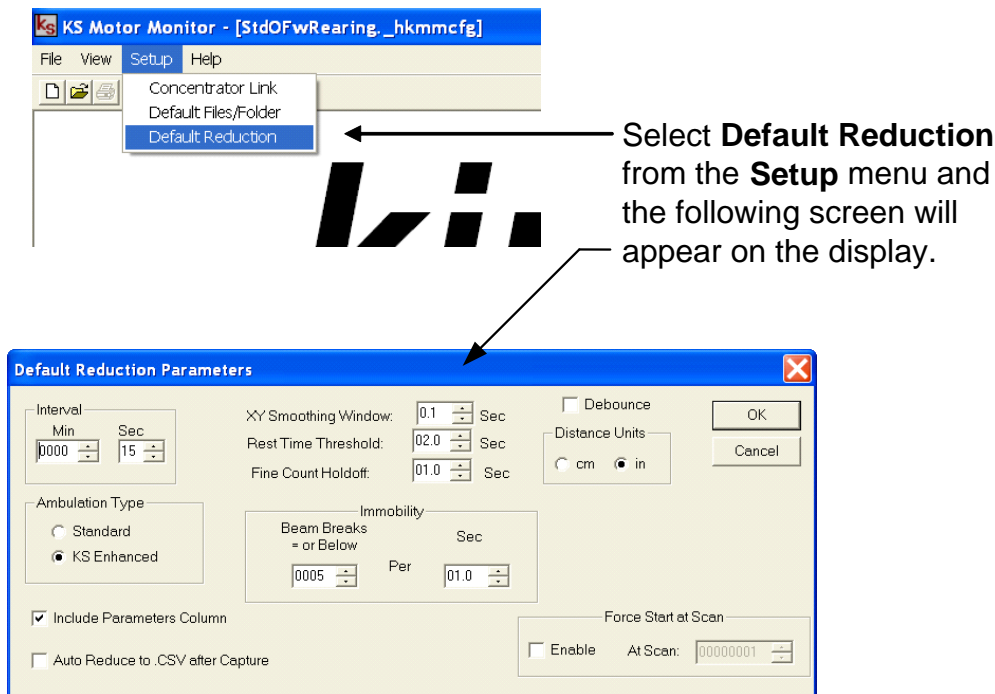

Figure 3-5. Default Reduction Parameters Screen
3.2.4 Setting Default Reduction Parameters To access the Default Reduction Parameters screen click on **Setup** and then **Default Reduction**. This is shown in Figure 3-5. These fields (except **Distance Units**) are repeated on the second data reduction screen. Entering values into these fields from this screen pre-fills the fields on the second data reduction screen (another keystroke reduction feature). You can change these settings from the second data reduction screen on a case-by-case manner. It is important to remember that the software “remembers” the settings used in the most recent reduction effort and uses those settings on the subsequent reduction effort. This allows the user to “set” parameters and use them on all subsequent reduction efforts without the need of re-typing those parameters.